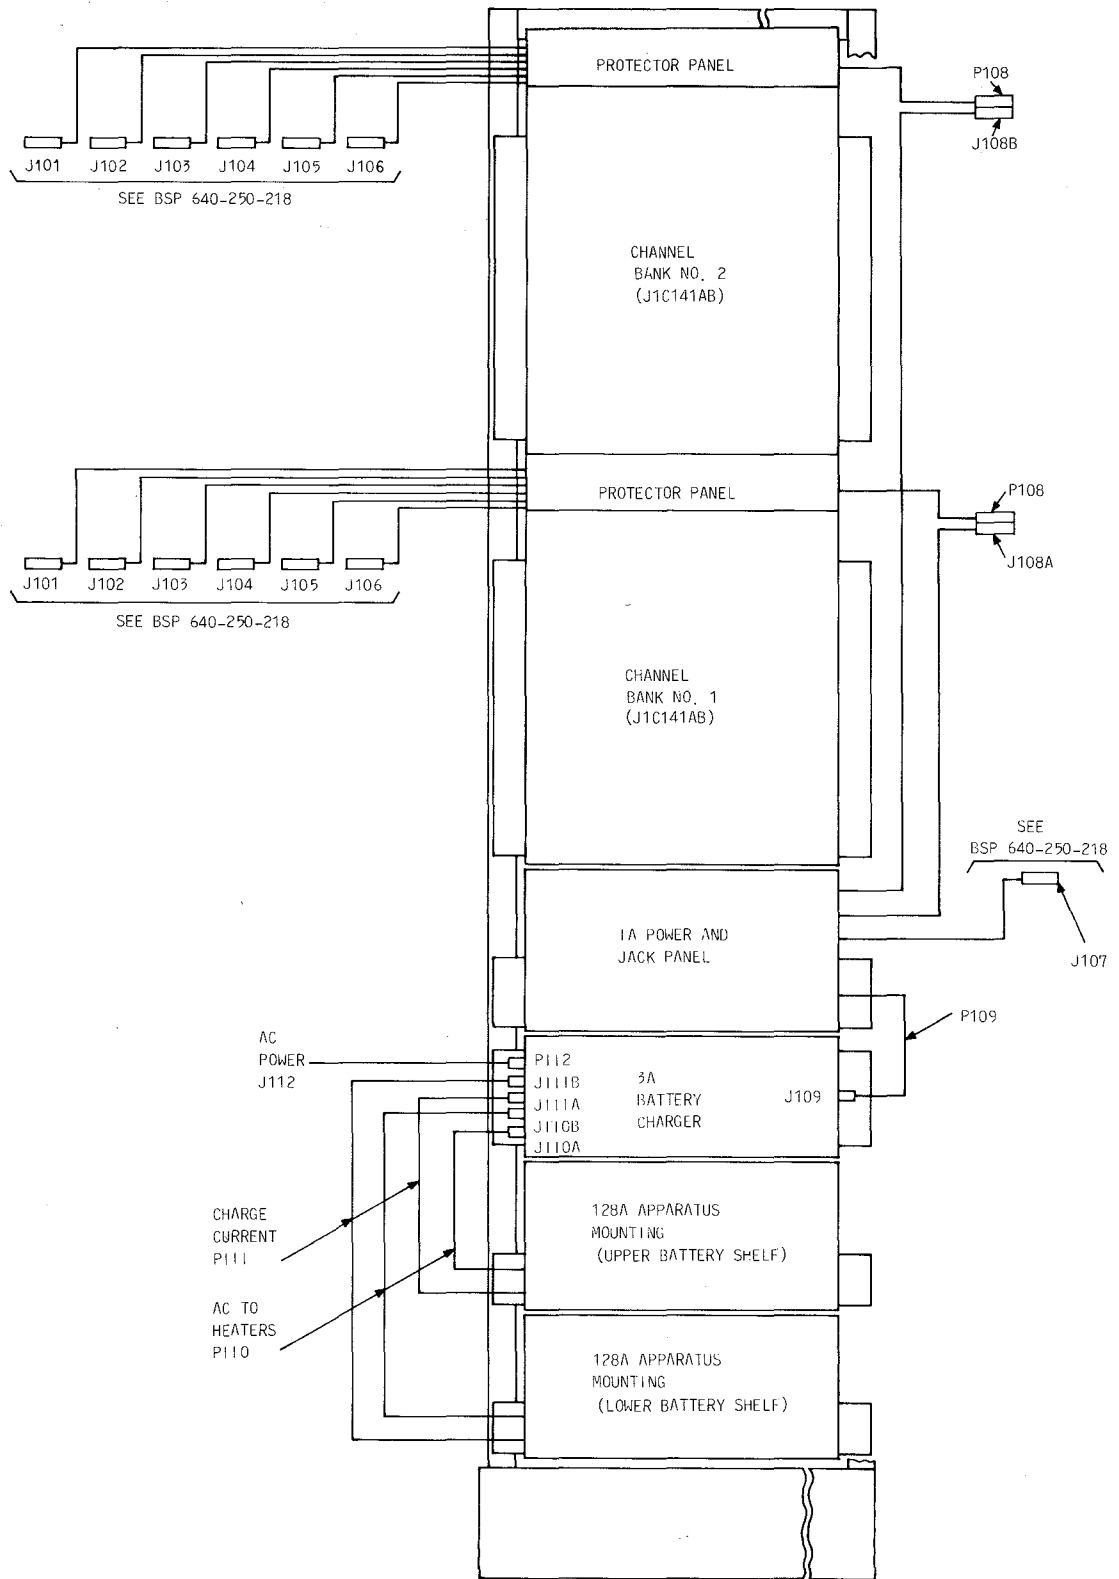

Fig. 3—Interconnections Between Shelves
4.01 After the shelves are installed, make electrical connections between shelves as follows. See Fig. 3.